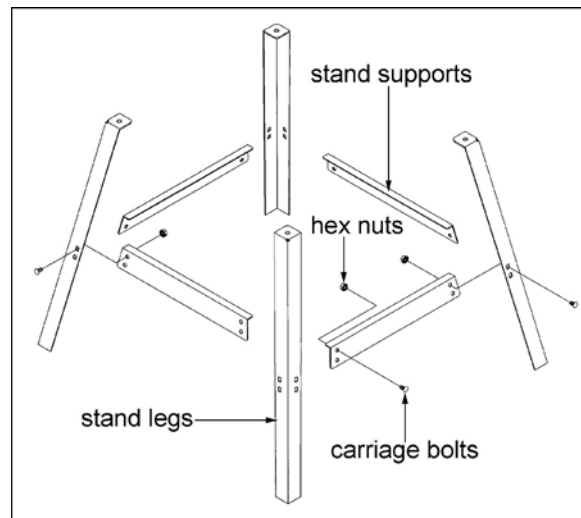

Figure 1
1. Match the hole patterns in the stand legs with the hole patterns in the stand supports. Mount the legs to the outside of the supports using *sixteen* M8x16 carriage bolts and *sixteen* M8 flange lock nuts, Figure 1. Do not tighten until the stand has been assembled and is sitting level on the floor.